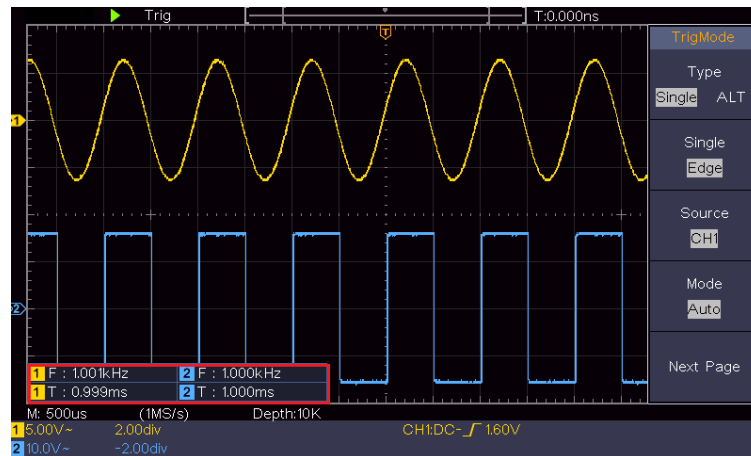

Figure 4-13 Automatic measurement
- The measured value will be displayed at the bottom left of the screen automatically (see *Figure 4-13*).